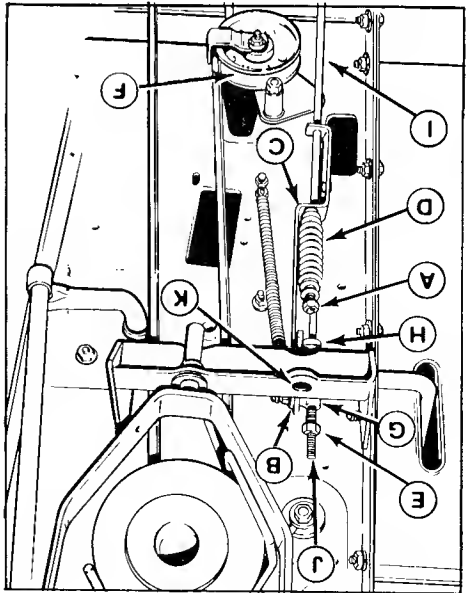

Figure 26. Brake-Clutch Adjustment
- Place the transmission in gear and release the parking brake. Move the brake rod (I, figure 26) back and forth to be sure there is no tension on the brake pads.
The clutch-brake pedal must be in up position. With one hand, push rod guide (C, figure 26) as far forward as slot (B) will allow while pulling rod (I) back with other hand. With rod guide in this position, tighten or loosen nut (A) until 1/4 inch (6.3 mm) of clearance is obtained between nut and end of spring.
a. With the pedal up, push the idler pulley (F, figure 26) firmly against the belt. With the pulley in this position, the gap between nut (E) and the rod guide (G) should be 7/8 inch (22 to 25 mm). If not, tighten nut (E) to decrease gap or loosen nut to increase gap. Recheck the measurement.
b. Depress and lock the clutch-brake pedal. Loosen the setscrew in the set collar (H). Move the collar against the spring which is located between collar (H) and rod guide (G). Be sure spring is seated as far as possible over rod guide (G). Push the collar 1/4 to 3/8 inch (6.3 to 9.5 mm)